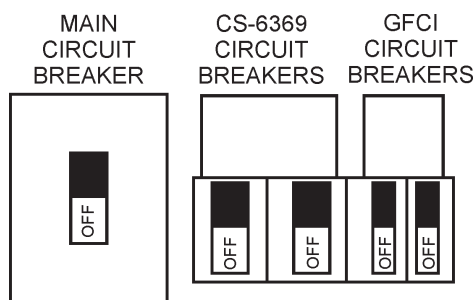

Figure 25. Main, Aux. and GFCI Circuit Breakers (OFF)
1. Place the **main, G.F.C.I., and aux.** circuit breakers (Figure 25) in the **OFF** position prior to starting the engine.